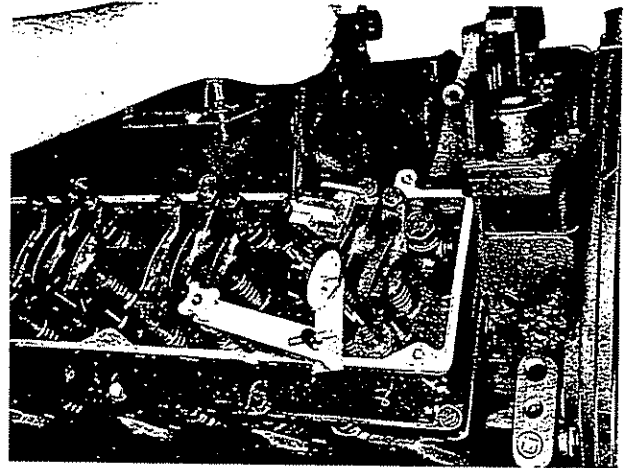

Fig. 2-39, (V514128). Bottoming injector plunger in cup — V-903
4. Using 3375790 Rocker Lever Actuator, bottom the injector plunger, check the zero (0) setting. Fig. 2-39. Allow the plunger to rise slowly, the indicator must show the plunger travel to be within the range specified in Table 2-11.